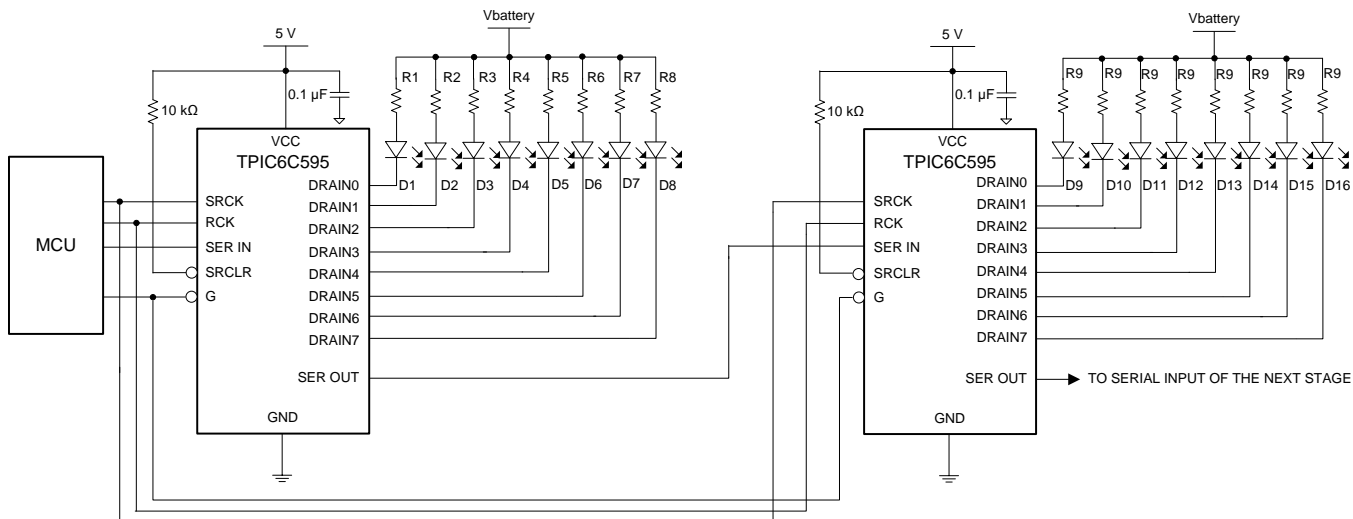

Figure 14. Typical Application Schematic
The typical application of TPIC6C595 is automotive cluster driver. In this example, two TPIC6C595 power shift registers are cascaded and used to turn on LEDs in the cluster panel. In this case, the LED must be updated after all 16 bits of data have been loaded into the serial shift registers. MCU outputs the data to the serial input (SER IN) while clocking the shift register clock (SRCK). After the 16th clock, a pulse to the register clock (RCK) transfers the data to the storage registers. If output enable (G) is low, then the LEDs are turned on corresponding to the status word with ones being on and zeros off. With this simple scheme, MCU can use the SPI interface to turn on 16 LEDs using only two ICs as illustrated in Figure 14.